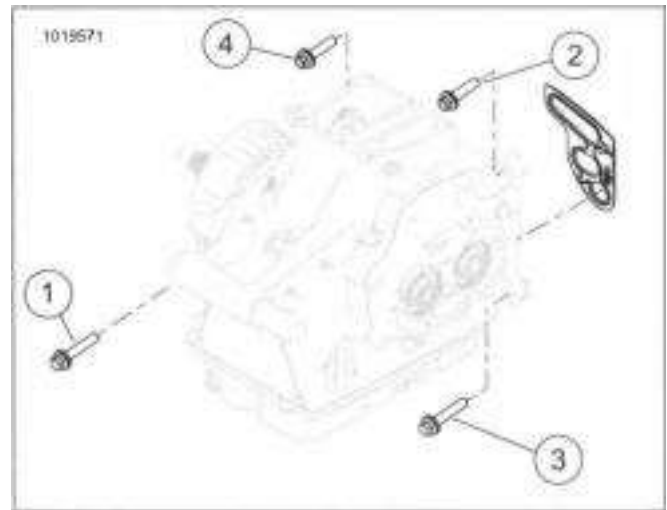

Figure 5-80. Transmission Housing to Crankcase Tightening Sequence
- b. See Figure 5-80. Tighten bolts in the sequence shown to.